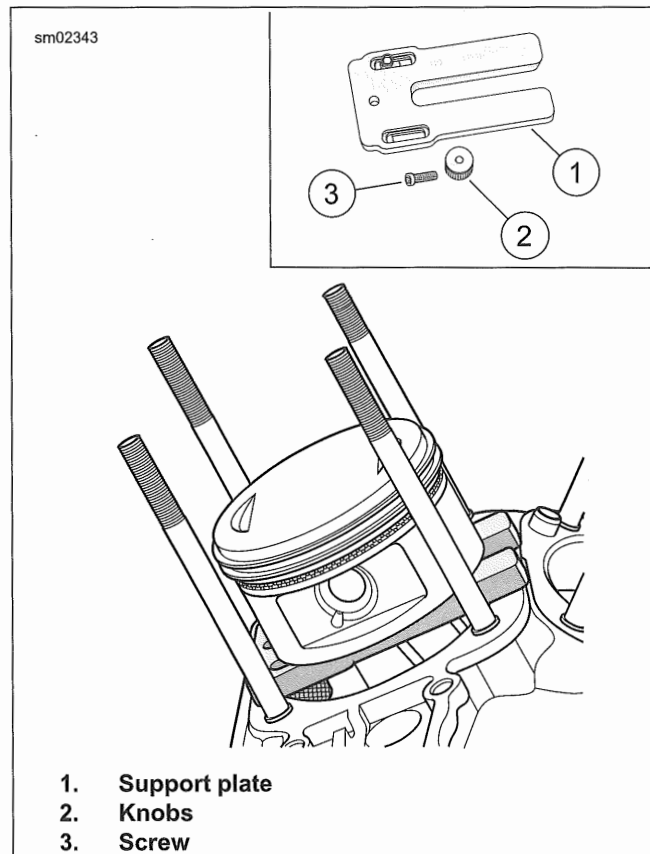

Figure 4-36. Piston Support Plate
3. See Figure 4-36. Install the HD-52185 (PISTON SUPPORT PLATE) under piston.